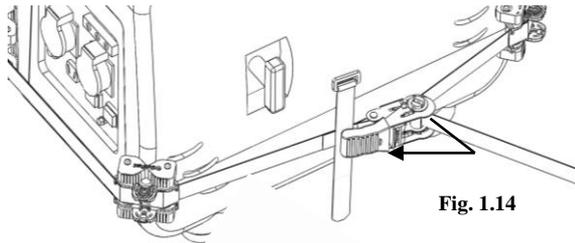

Fig. 1.14
- l.** Once the Angle Braces are in the desired location, open and close the ratchet handle 1 or 2 times to begin tightening the system (Fig 1.14). **Do not over tighten the system so tight that you cannot make any adjustments to the placement of the Angle Braces.**